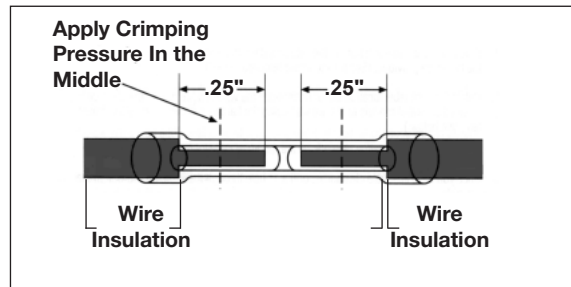

Figure 63
**NOTE:** It is important to remember that a solid electrical connection is essential when installing any electrical device or option. A proper crimp is shown in (**Fig. 63**).